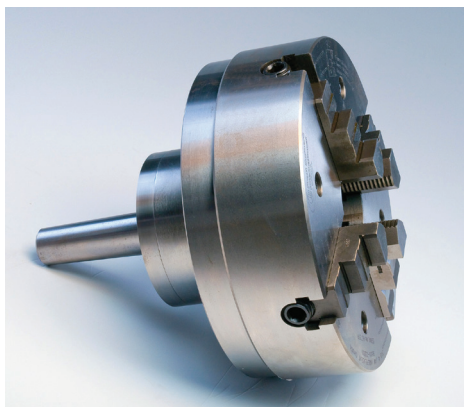

Figure 4. This live chuck mandrel can center rolls with damaged center holes.
■ Center holes on roll journals often take a beating when replacement bearings are installed, rendering the center hole unusable. Also, depending on the repair process, refurbished rolls can end up with journals that are misaligned with the center holes, making future repairs problematic. Machining a new center hole can be difficult and time-consuming. Several customers sought a solution. Our answer was a live chuck mandrel that combined the rotational accuracy of a live center with the flexibility of a 4-jaw chuck (Figure 4). The mandrel chucks on the bearing journals of the roll, bypassing the damaged center hole. Simple indication of the roll while adjusting the 4-jaw chuck brings the part back on centerline. Alternately, where the center hole is in good condition but no longer on center, the mandrel can chuck a dead center and dial in the part by adjusting the chuck jaws.